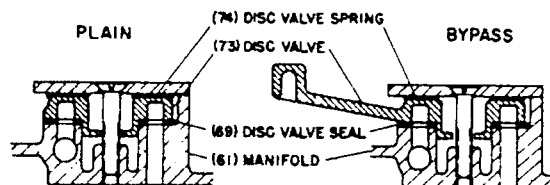

Figure 11. Disc valve assemblies
The manifold can be converted in the field by changing the disc valve (73) and disc valve spring (74) as shown in Figure 11. These parts are available as kits as listed below: